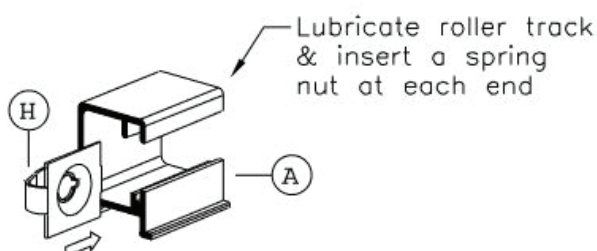

figure 3a
Insert a spring nut (H) into each end of Bottom Track (A) (see fig. 3a & exploded view - sht 1) and position track on tub curb with it's opening toward interior (see fig. 3b).